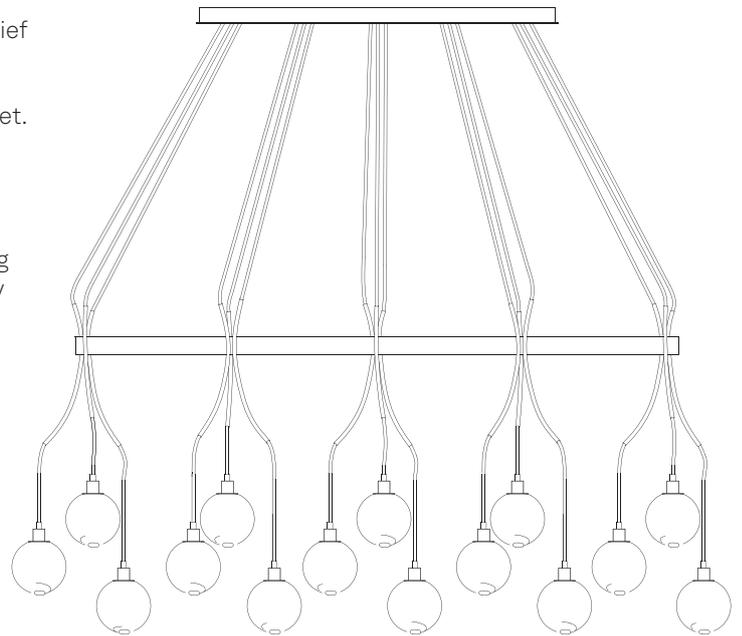

Figure 4. SkLO recommended composition
- 7 Determine the length each pendant is to hang below the skirt elements. To compose the chandelier per the SkLO standard composition (*Figure 4*) stagger the lengths of the 3 pendants of each skirt element, and keep those staggered lengths approximately consistent for all 5 groups of pendants/skirts.